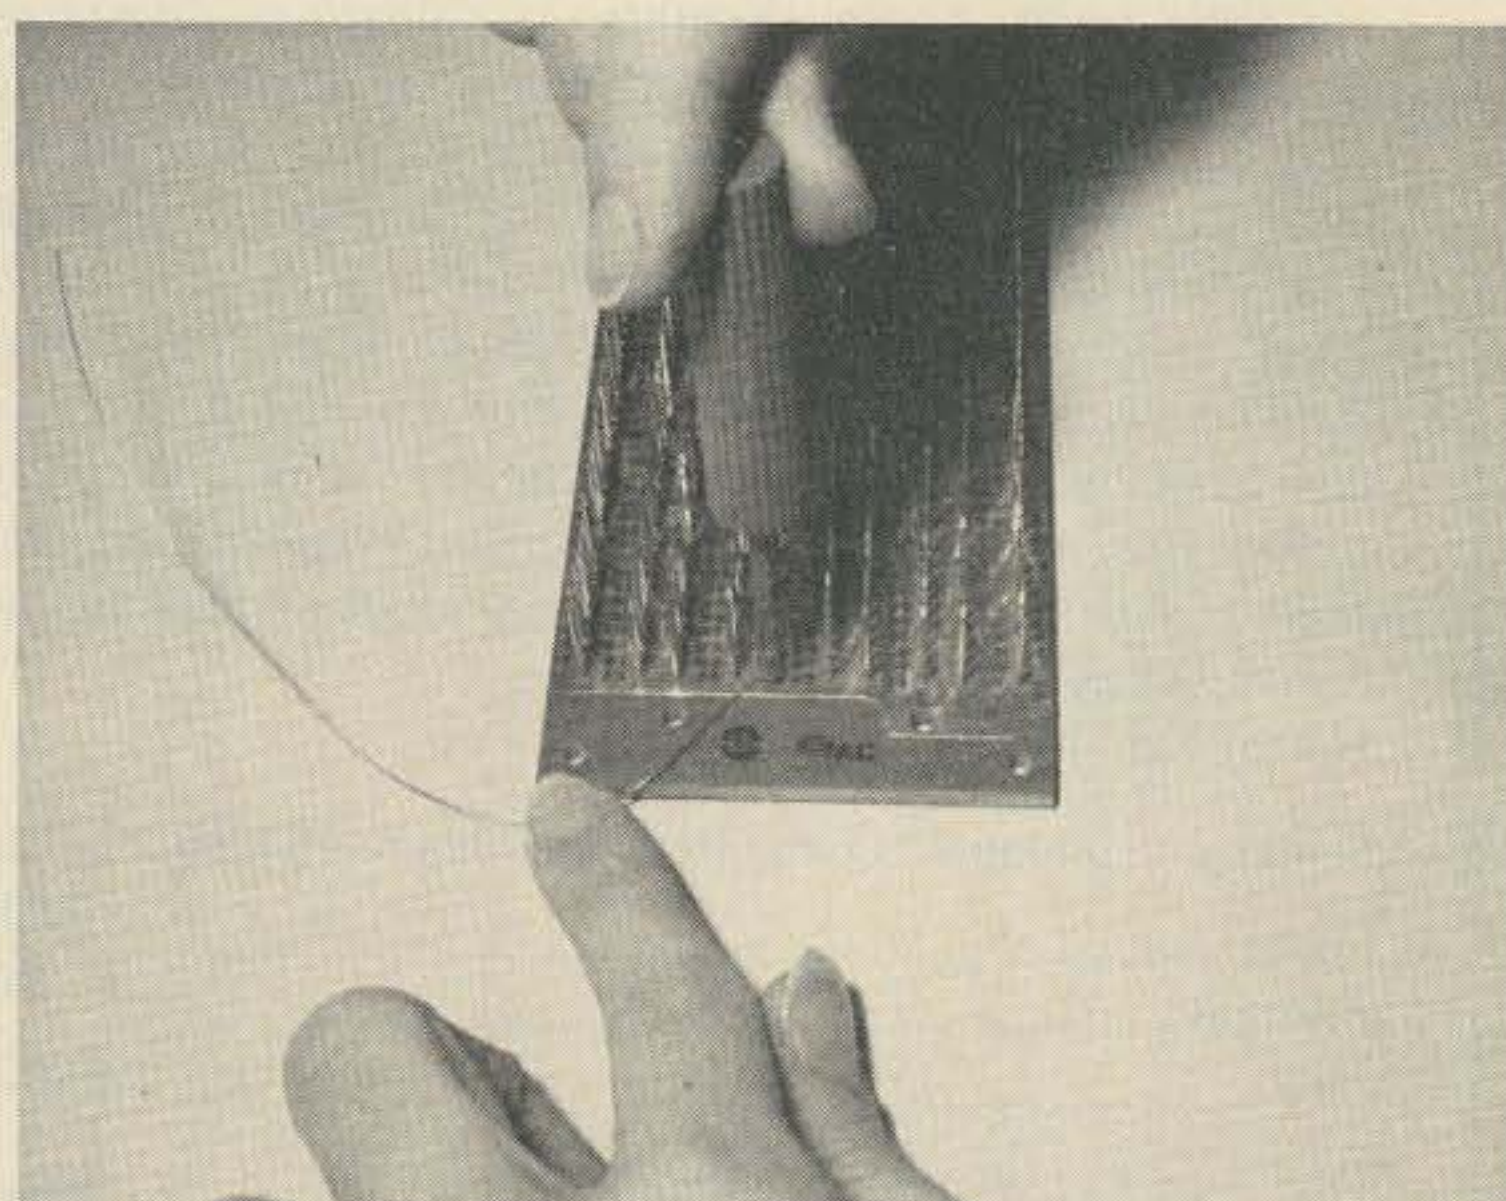

Fig. 2.
\$10, but the intermittent use of this unit pointed to the use of a battery supply for about \$1. In order to obtain maximum use of the battery as its voltage decreases with age and use, a variable resistor, or as in my case, a switch with resistors (Fig. 2), was used to permit adjustment of the supply voltage. Too high a supply voltage causes a 2400 Hz output; too low a voltage results in no output. The correct voltage is easily obtained by first connecting earphones to the 1200 Hz output jack, J2, and then, starting at the maximum resistance, slowly reducing the resistance until the 1200 Hz signal is heard.
according to the following specifications for 1200 Hz output: Frequency — 307,200 Hz, .01% tolerance; Type — GP; Calibration — room temperature; Holder — F605 (HC 6/U); Circuit Load — use Fig. 2.
Step 2. Place the tool with the wire over the terminal (Fig. 2).